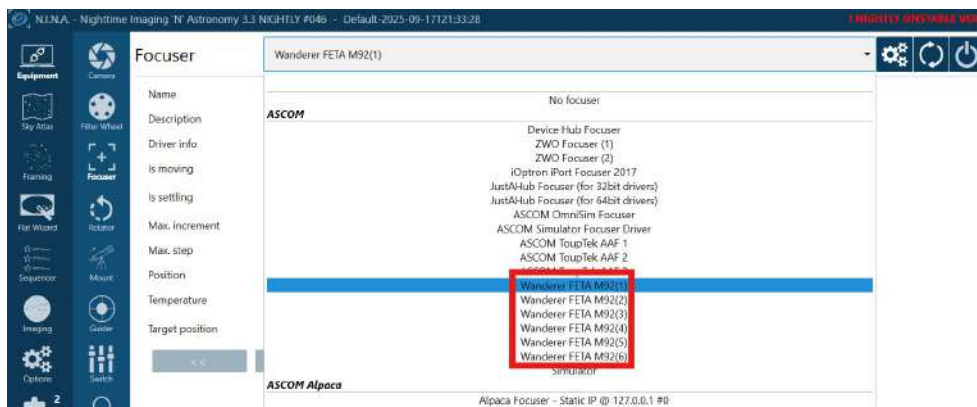

Figure 9
By installing the WandererEmpire software mentioned in the previous section, you have also installed the ASCOM focuser driver for FETA M92. Taking NINA as an example, you can find Wanderer FETA M92 (1) – (6) in the Focuser section, corresponding to Device 1 – 6 in the WandererEmpire software(Figure 9). Select the driver and click Connect. Before doing this, please make sure that the device can be connected successfully in WandererEmpire.